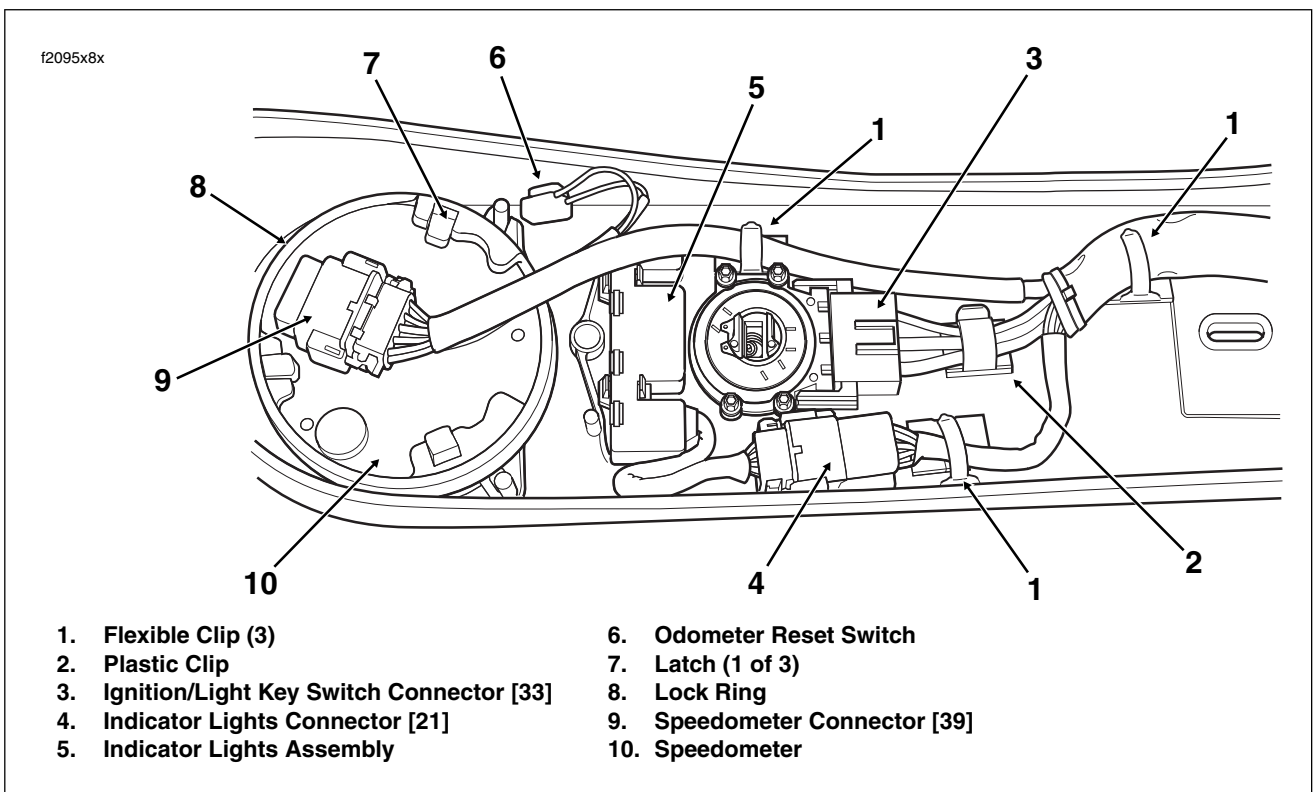

Figure 8-122. Instrument Console Assembly (FLHR/C)
10. See Figure 8-122. Gently pry the three latches upward to release the lock ring from the back of the speedometer.
5. If released, position the speedometer harness so that it runs the length of the console on the left side. Bend the flexible metal clip to capture the harness conduit. See Figure 8-122.